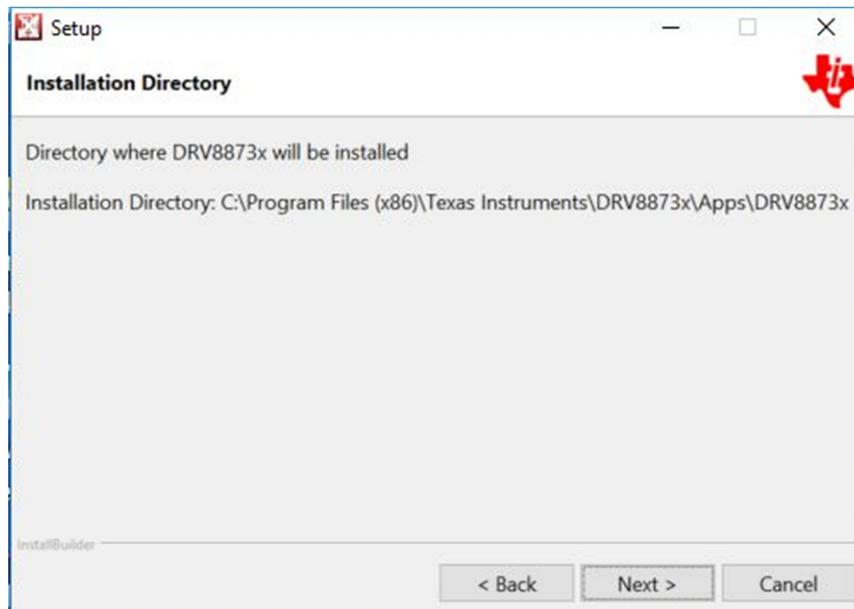

Figure 8. Installation Directory
Step 6. Select the installation directory. TI recommends using the default installation directory. Click the *Next* button when the directory is determined (see Figure 8).